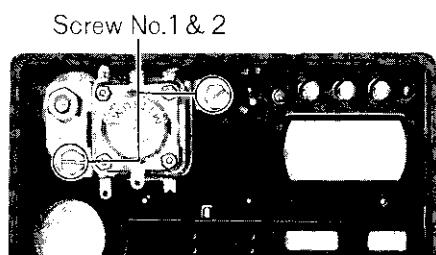

Fig. 7
3. Fix 2 screws (nos. 1 & 2) temporarily, as shown in fig. 7.
5. Check rub between knob and cabinet. Then, secure two screws, as shown in fig. 7.